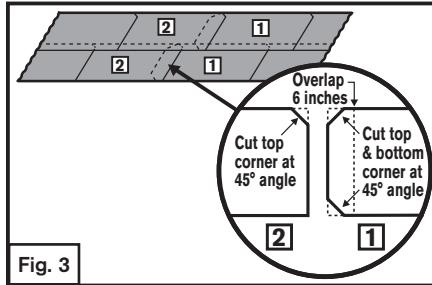

Fig. 3
**Step 8.** If additional pieces are needed to complete the starter course, the end lap to be overlapped must be cut at 45° angles on the top and bottom corners. See Fig. 3
The top corner on the piece that is overlapping the previous piece must also be cut on the top corner at a 45° angle. See Fig. 3